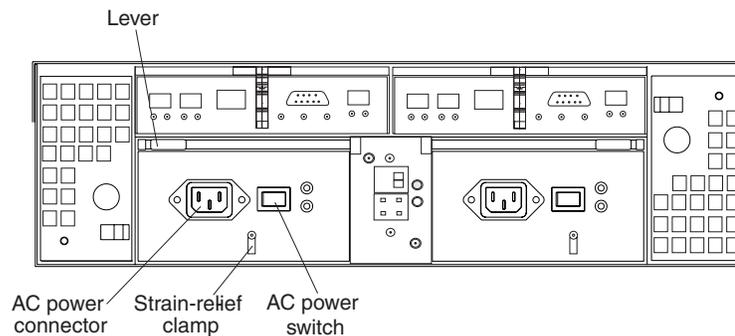

Figure 56. Lever for power supply removal
1. Turn off the ac power switch. See Figure 56.